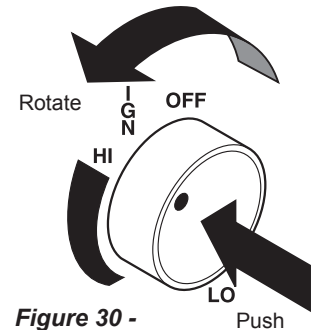

Figure 30 - HIGH Position
10. Push in control knob and turn counterclockwise to the HIGH setting. At this location the control knob will pop out when positioned correctly. The knob can now be positioned at any position between HIGH and LOW. Figures 30 and 31